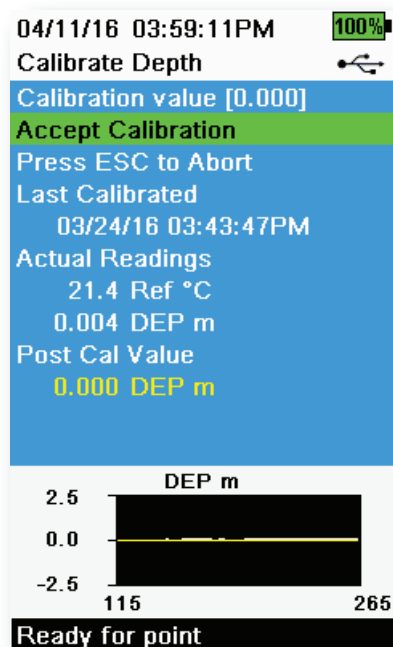

Figure 54 Calibrate Depth
3. Observe the actual measurement readings for stability (white line on graph shows no significant change for 40 seconds), then select **Accept Calibration** (Figure 54). "Calibration successful!" will be displayed in the message area.